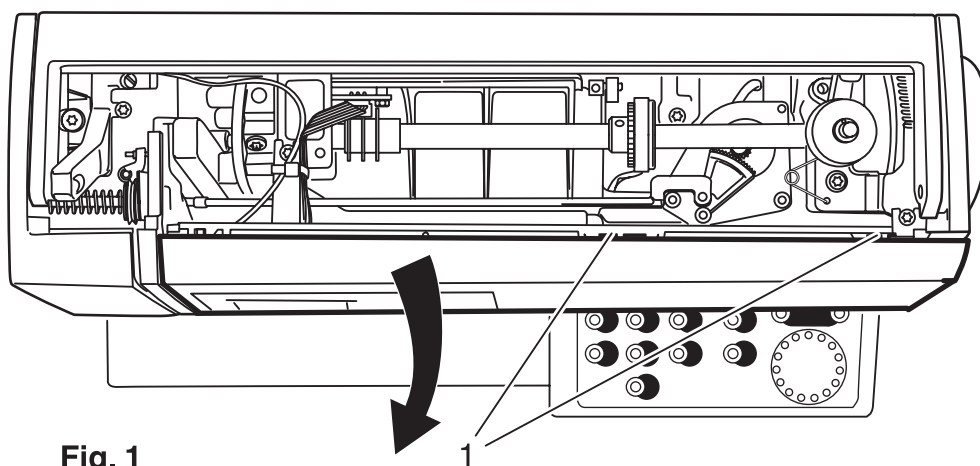

Fig. 1
- Slightly raise both lugs 1 and remove the facing panel of the front housing panel by swiveling it downwards (fig. 1).